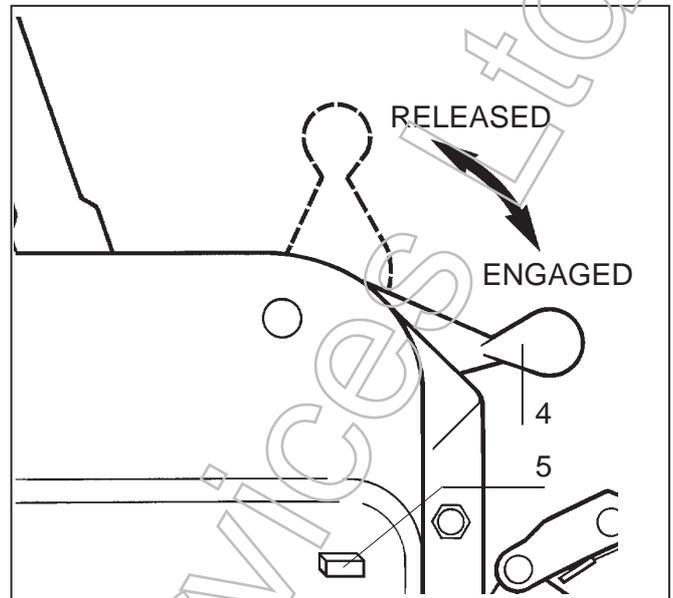

Fig. 7 - TU-8 and TU-16. Rope release lever.
There are two positions for the rope release lever (See Fig. 7, 8 and 9) : released or engaged.
4.1. TU-8 or TU-16 (Fig.7)